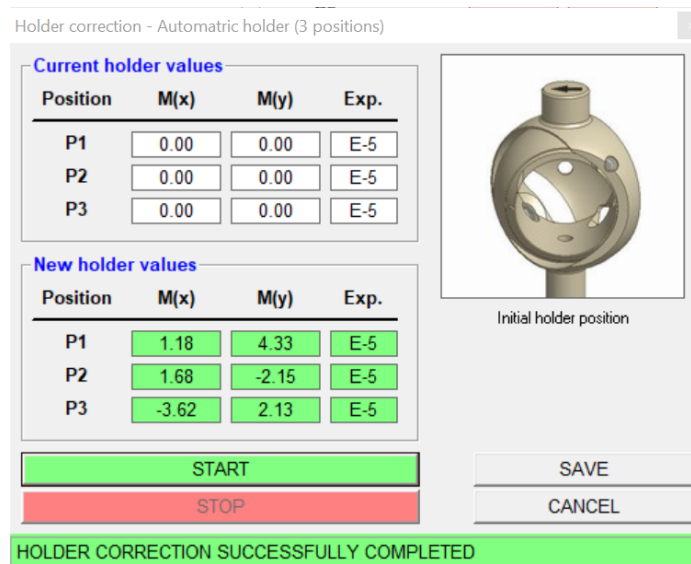

Figure 6: Holder Correction dialogue box after successful measurement.
1. Click **Execute > Holder Correction**. The Holder Correction dialog box will open (*Figure 6*).